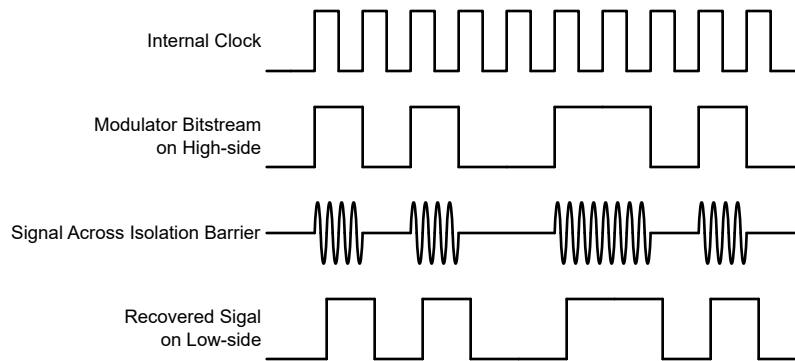

Figure 7-1. OOK-Based Modulation Scheme
The AMC1311-Q1 uses an on-off keying (OOK) modulation scheme, as shown in Figure 7-1, to transmit the modulator output bitstream across the SiO₂-based isolation barrier. The transmit driver (TX) shown in the Functional Block Diagram transmits an internally-generated, high-frequency carrier across the isolation barrier to represent a digital one and does not send a signal to represent a digital zero. The nominal frequency of the carrier used inside the AMC1311-Q1 is 480 MHz.